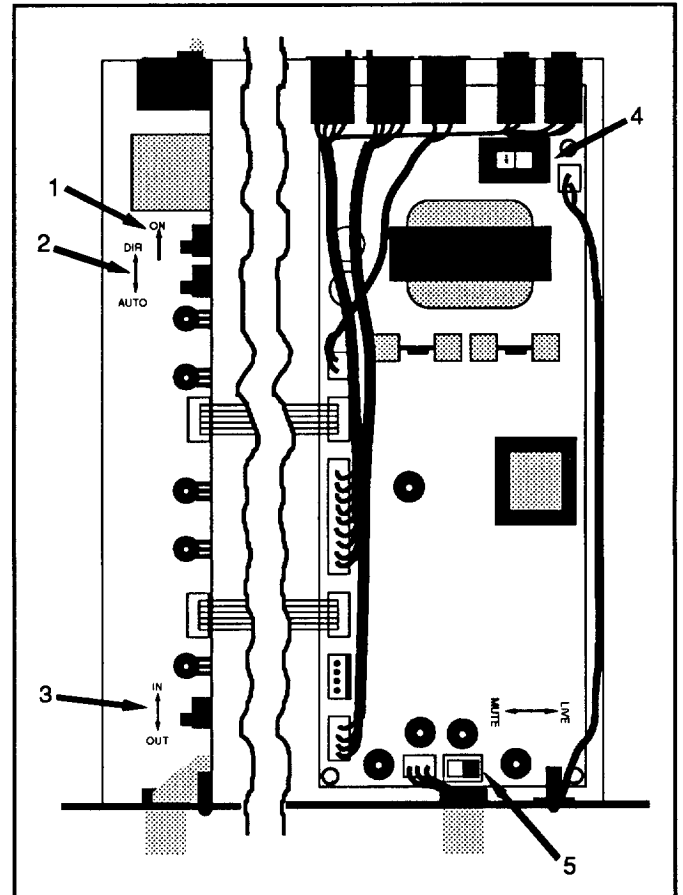

Figure 8: Internal Features.
### 3.3 Internal Features (Refer to Figure 8)
1. Remove the top panel and set the internal controls to the desired positions. Refer to Section 3.3 and Figure 8 of this manual for explanation of these controls.